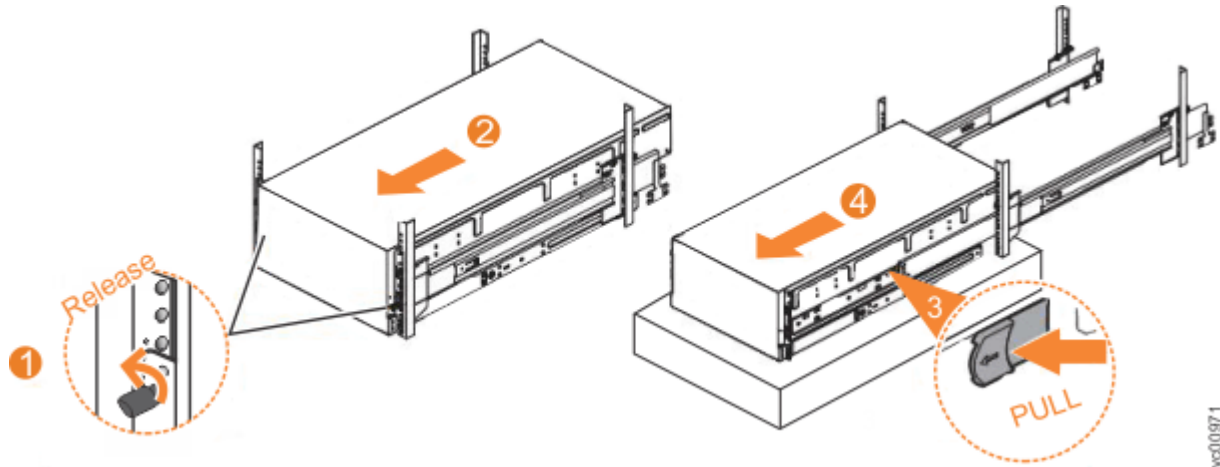

Figure 85. Removing the 2077-92F enclosure from the rack
1. Loosen the locking thumb screws (1) on the front of the enclosure, as shown in Figure 85 on page 84.
2. Carefully slide the enclosure forward out of the rack (2), as shown in Figure 85 on page 84.
3. Locate the left and right blue release tabs near the front of the enclosure. Pull both release tabs forward to unlock the drawer mechanism (3 in Figure 85 on page 84).
4. Slide the enclosure and inner rail member out of the rack (4 in Figure 85 on page 84).